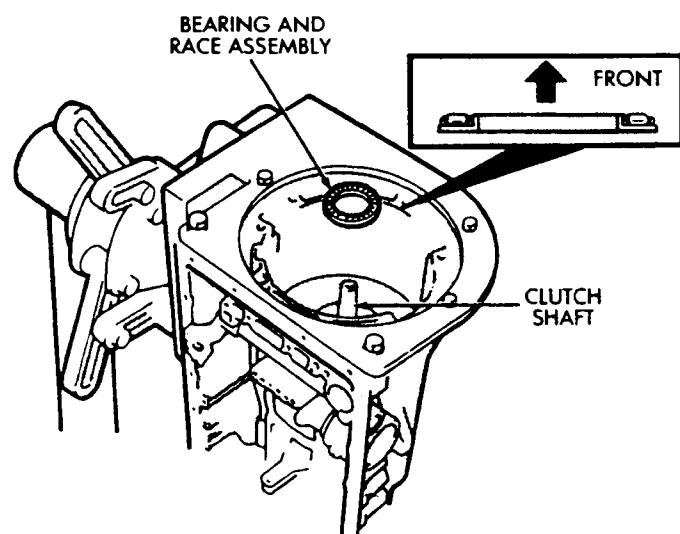

Fig. 31 Installing Clutch Shaft Thrust Bearing-Race Assembly
(38) Coat thrust bearing and race assembly with petroleum jelly and install it on clutch shaft. Bearing faces up and toward case front as shown (Fig. 31). Verify bearing/race size. Bearing and race outer diameter is 47.8 mm (1.882 in); inside diameter is 33.6 mm (1.301 in).